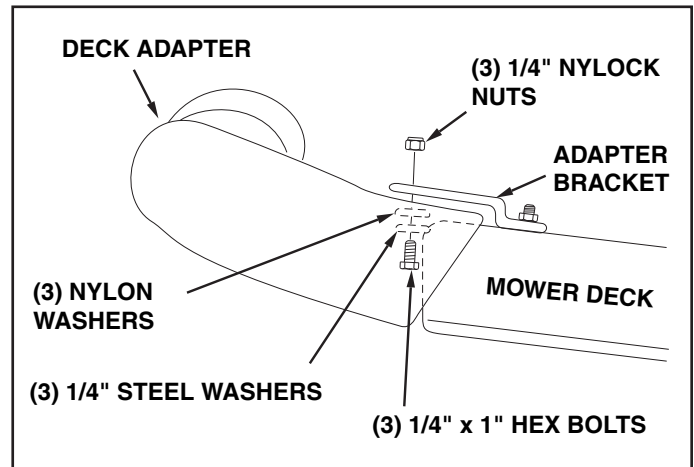

FIGURE 27
- With deck adapter positioned correctly over the discharge opening, use the adapter bracket as a template and drill three 9/32" diameter holes in the top of the deck adapter. See figure 27.
- Bolt deck adapter to bracket using three 1/4" x 1" bolts, nylon washers, 1/4" flat washers and 1/4" nylock nuts. Nylon washers should be against the inside of the deck adapter. See figure 27.